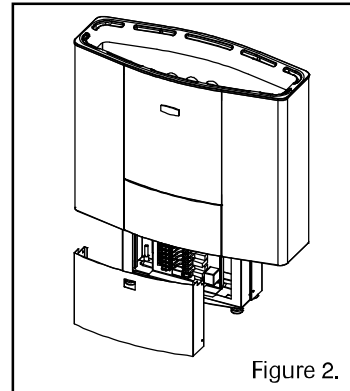

Figure 2.
- Remove the front panel. (see Fig. 2).